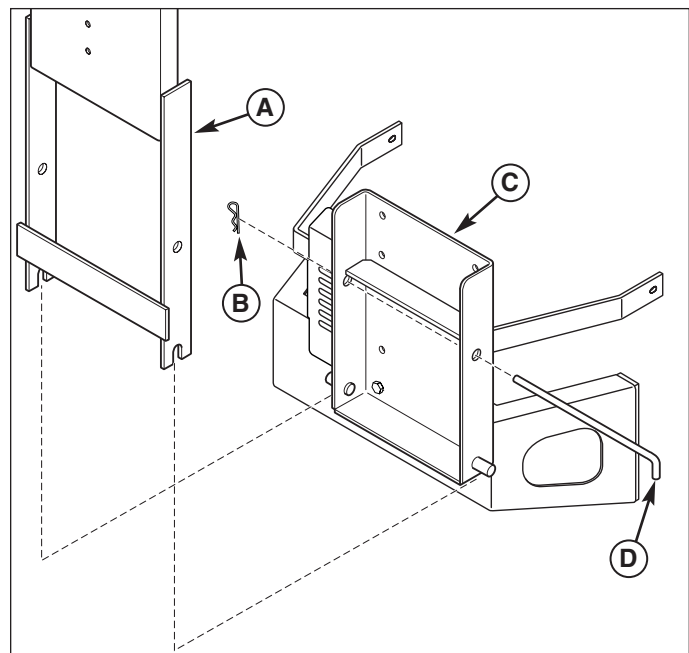

Figure 10. Install Back Plate
4. **Warning: Back plate (A) will fall when rod (D) is removed.** Remove the hair pin (B, Figure 10) and rod (D) while holding back plate (A).
5. Lift back plate & support assembly (A, Figure 10) off hitch plate (D)